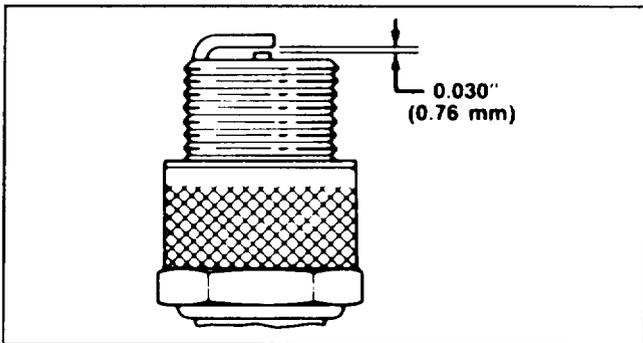

Figure 35
3. Set air gap between electrodes of new spark plug at 0.030" (0.76 mm) (Fig. 35). Next, install spark plug in cylinder head. Tighten plug to 15 ft-lb (20.4 N-m). If torque wrench is not used, tighten plug firmly.